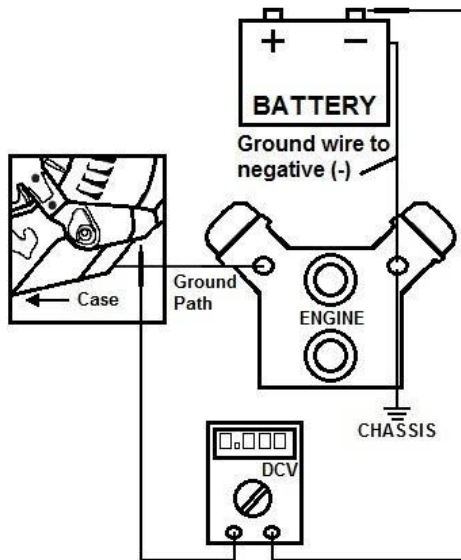

Figure 1
1. Apply some load to the charging system, such as high beams and A/C. Rev the engine to 1500 RPM. Use a voltmeter to measure the DC voltage from a metal point on the alternator case to the negative (-) battery cable. If your reading is higher than 0.10VDC, this indicates you have a poor ground connection. Check the ground path, paint or powder coating on the brackets, engine ground strap, and ground cable from the frame to the battery (**Figure 1**).